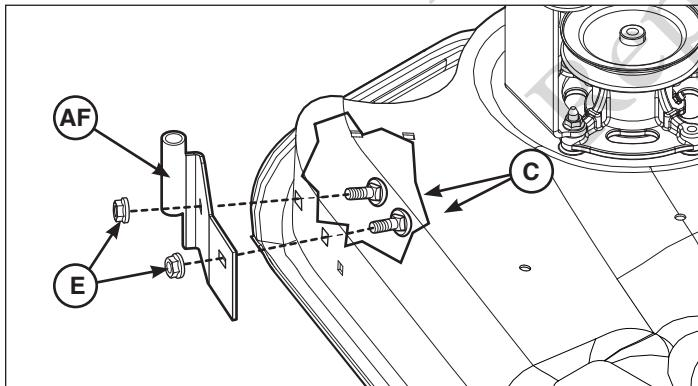

Figure 14
1. From inside of mower, insert carriage bolts (**C**, Figure 14) through holes closest to the right of the discharge opening.